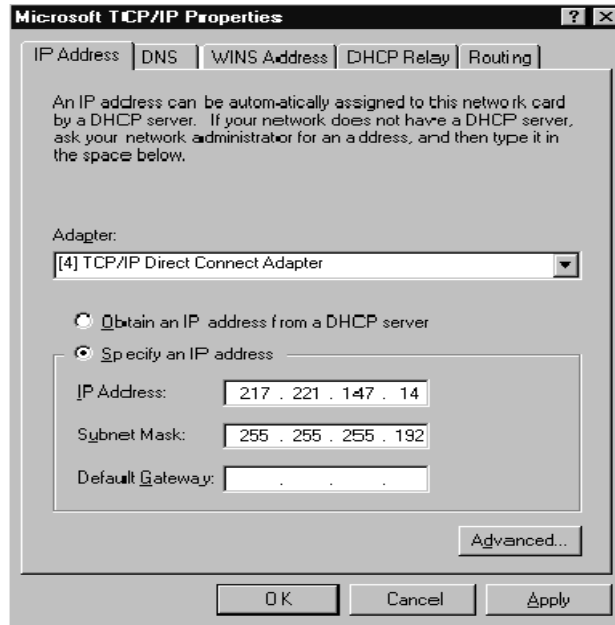

Figure 6-20. Assigning an IP Address to the ESCON Adapter
10. Enter an IP Address and Subnet Mask; defining the address that the mainframe will use to communicate with the Netfinity server (Figure 6-20). Note that the mainframe IP address and this address must be in the same network (subnet). There is generally no need to enter a Default Gateway since TCP/IP Direct Connect is a point-to-point connection. However, in some environments it may be necessary to enter the mainframe IP address as the default gateway.